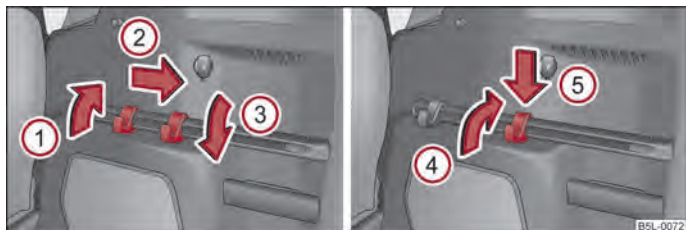

Fig. 59 Luggage compartment: Fastening strip with moveable hook/remove hook
A fastening strip is located on both sides of the luggage compartment with two moveable hooks each, in order to attach small items of luggage, such as bags etc. ⇒ fig. 59. An item of luggage weighing up to 7.5 kg can be attached to each hook.
- Fold up the hook in direction of arrow ① ⇒ fig. 59 until an angle of approx. 45° is reached.
- Move the hook in direction of arrow ② ⇒ fig. 59 into the desired position and fold down the hook as far as the stop in direction of arrow ③.
- Fold up the hooks on the fastening strip in direction of arrow ① ⇒ fig. 59.
- Fold down the hooks in direction of arrow ③ as far as the stop ⇒ fig. 59.